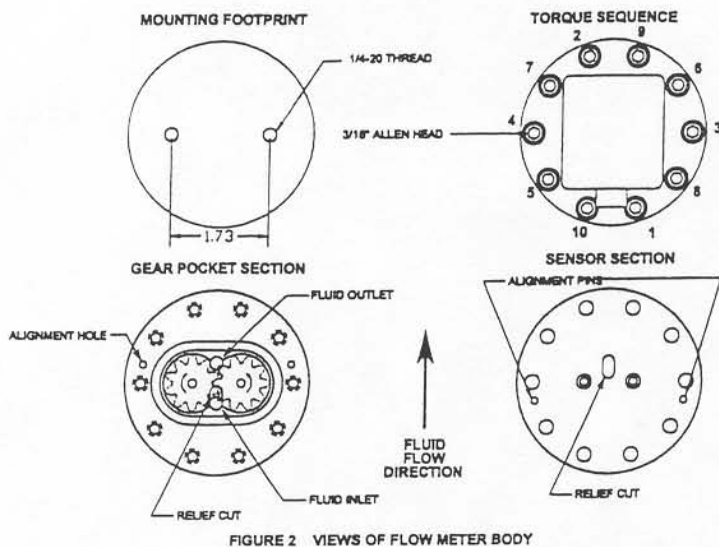

FIGURE 2 VIEWS OF FLOW METER BODY
The unit may be mounted using the bolt pattern shown in Figure 2. (2) 1/4 - 20 bolts should be used. The meter body must be grounded to true earth ground. Always mount the flowmeter with the gear faces perpendicular to the horizon of the earth. (i.e., Vertical). This minimizes the effect of gravity on the gears. The Direction of flow must be as marked on the side label of the meter. The fluid meter is opposite the sensor connection.
Snug all screws down. Tighten the screws in the sequence pattern shown in Figure 2 to 13lbs. / ft. torque. This is a cross pattern to insure proper gasket setting.